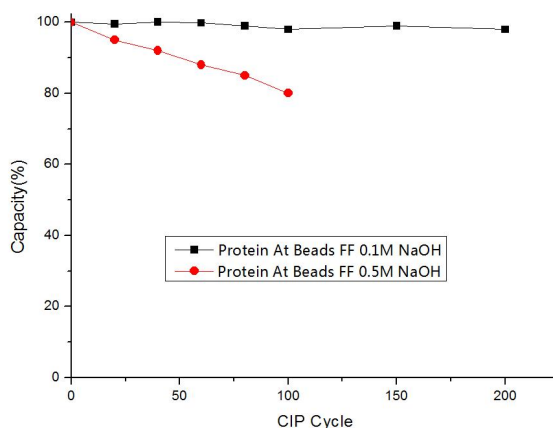
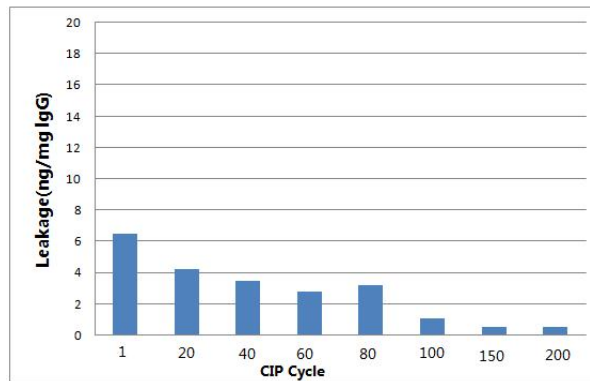

Figure 1. Dynamic binding capacity of Protein At Beads 4FF after CIP with 0.1-0.5M NaOH.
Figure 2. The leakage of the **Protein At Beads 4FF** ligand over numerous CIP cycles.
**Protein At Beads 4FF** is an affinity chromatography medium designed for the purification of monoclonal antibody, polyclonal antibody and Fc tag fusion protein. The characteristics of **Protein At Beads 4FF** are summarized in Table 1. Alkali-tolerant protein A (protein At) is obtained by gene recombination technology on the base of natural protein A. **Protein At Beads 4FF** retains the capacity after 200 times repeated CIP cycles with 0.1M NaOH, approximately 80% of the initial capacity with 0.5M NaOH after 100 times repeated CIP cycles, see Figure 1. Protein At is directional immobilized to the agarose beads. The level of leakage of the ligand during elution is very low (less than 10ng ligand/mg antiodody, see Figure 2).